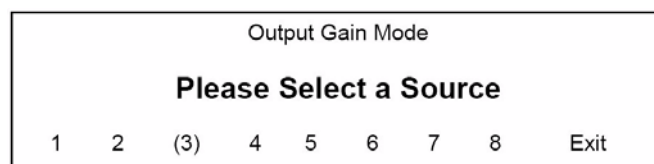

FIG. 34 Output Gain Mode - Exit
2. The **Output Gain Mode** screen is displayed. Select the source to be adjusted for “Output Gain” (FIG. 34).